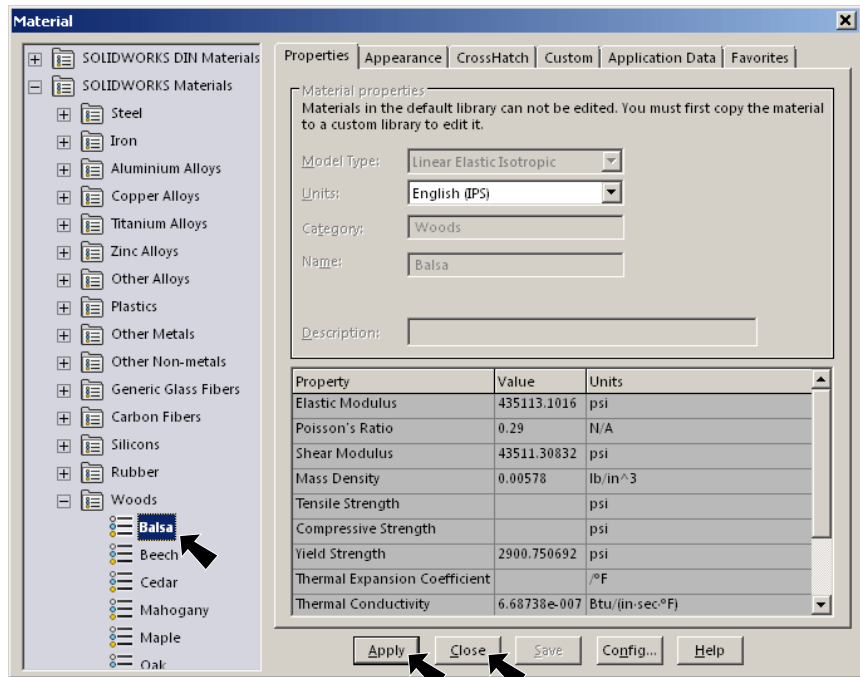

Fig. 28
Step 2. Expand **Woods** (click the +) in the material tree and select **Balsa**, Fig. 28. Click **Apply** and **Close**.